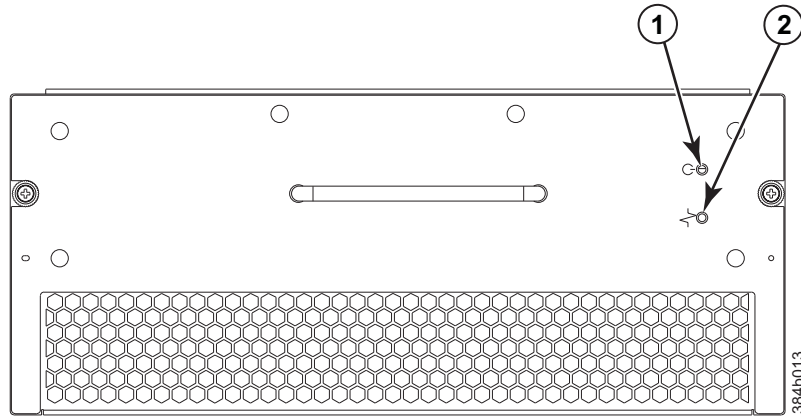

Figure 30. Blower assembly LEDs
1. Check the LED indicators on each blower assembly (see Figure 30 on page 67). The LED patterns may temporarily change during POST and other diagnostic tests; for information about how to interpret the LED patterns, see Table 13 on page 67. Be sure to check both blower assemblies.
Figure 30 on page 67 shows the blower assembly.